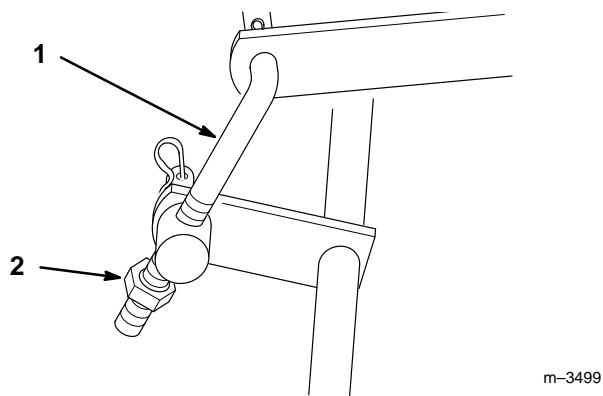

Figure 9
- To adjust front-to rear blade slope turn locknut on rear adjustable link (Fig. 9).